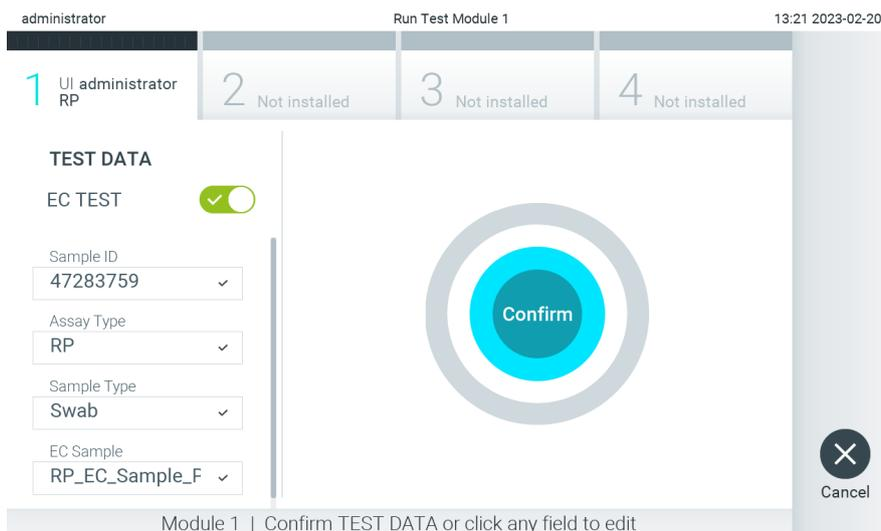

Figure 96. The Confirm screen.
7. The **Confirm** screen will appear. Review the data entered and make any necessary changes by pressing the relevant fields on the touchscreen and editing the information (Figure 96).